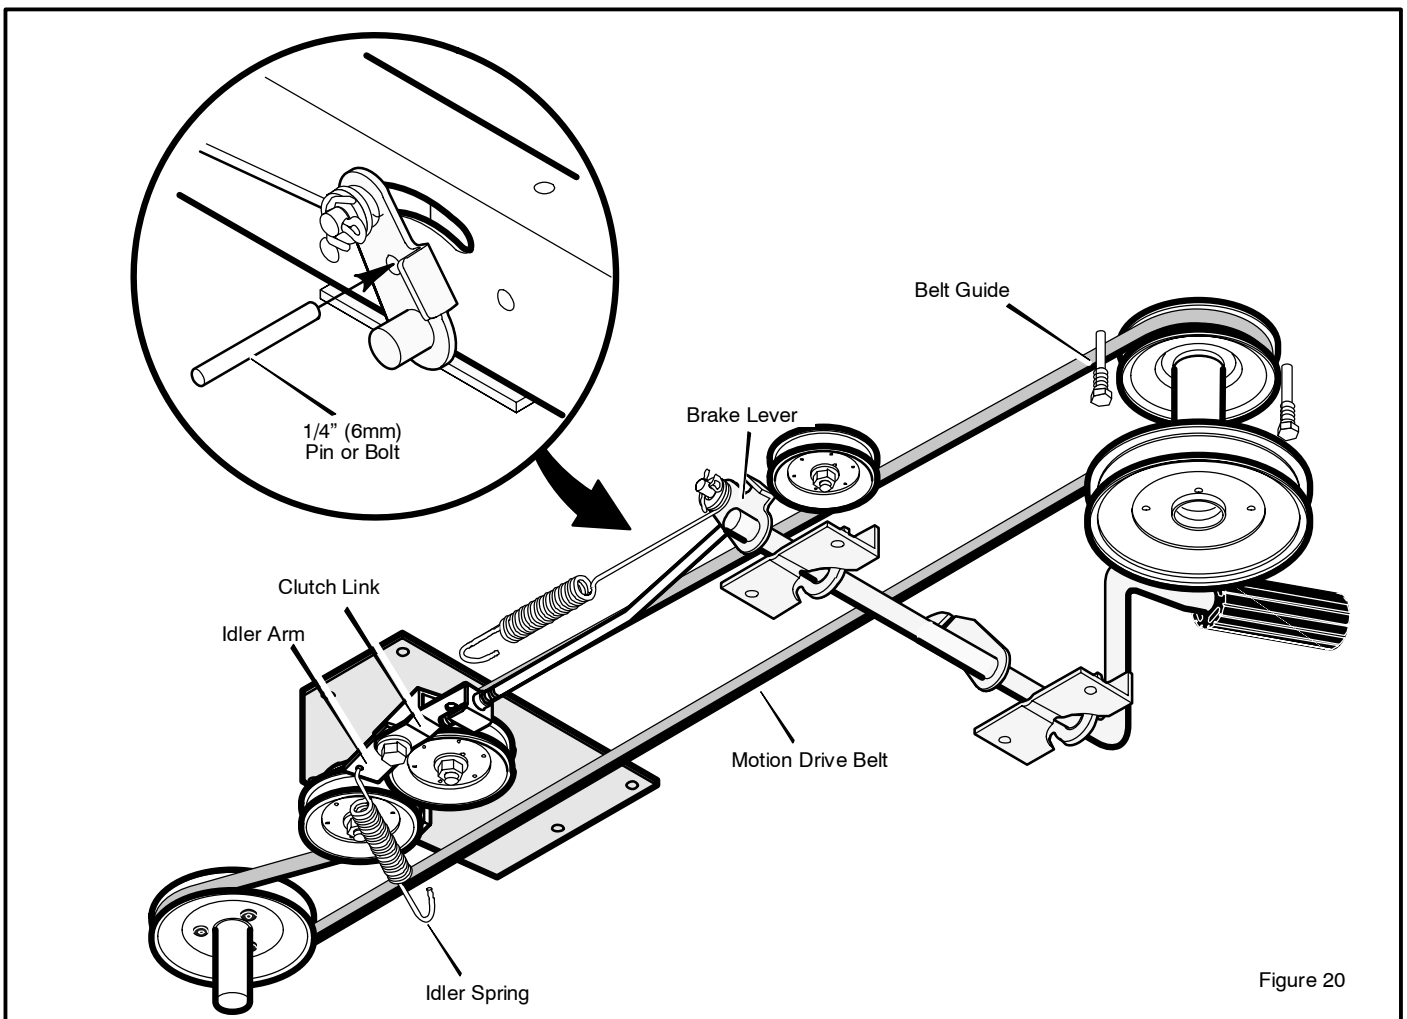

Figure 20
3. Align the hole in the **brake lever** with the hole in the frame. Hold the **brake lever** in place with a 1/4 inch (6 mm) pin or bolt (Figure 20).
6. Remove the 1/4 inch (6 mm) pin or bolt (Figure 20).